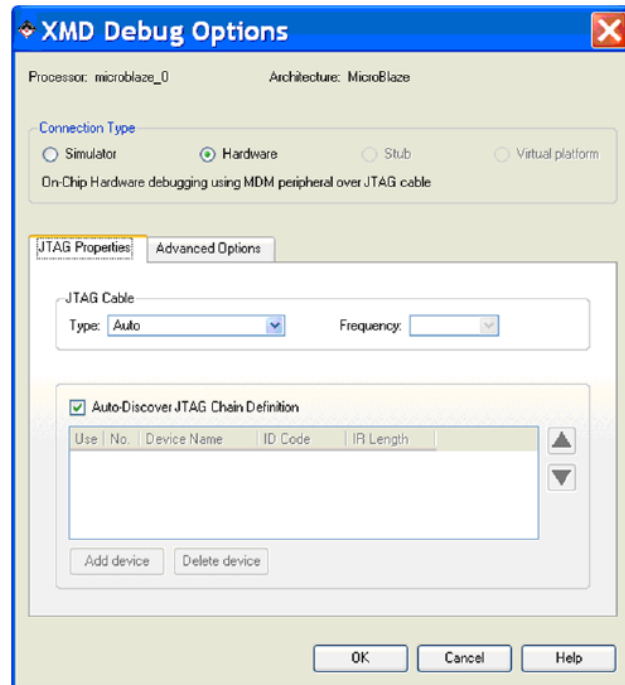

Figure C-1: Programming FPGA with Bitstream
7. If the “XMD Debug Options” dialog box appears (Figure C-1), make sure the default options are set and click **OK**.